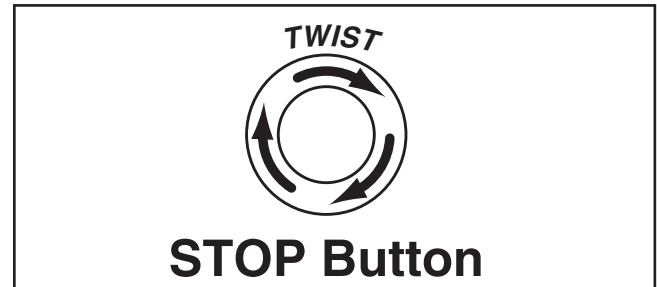

Figure 23. Resetting the switch.
7. Push the front and rear STOP buttons in, then twist them clockwise so they pop out. When the STOP buttons pop out, the switches are reset and ready for operation (see **Figure 23**).